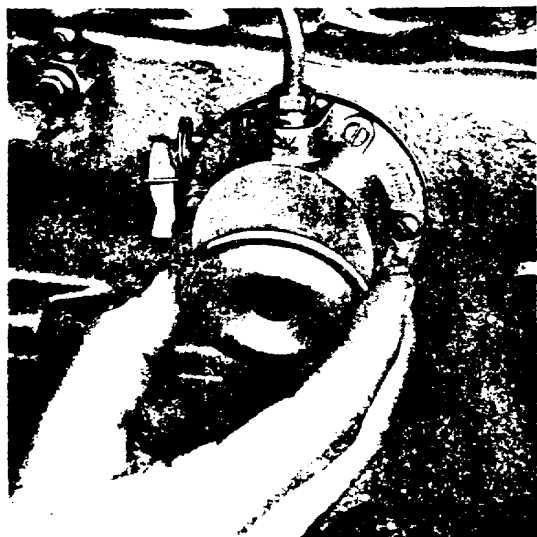

Fig. N.4.
- 1. Remove the fuel lift pump cover and pulsator diaphragm by unscrewing and removing the cover screw (see Fig. N.4).